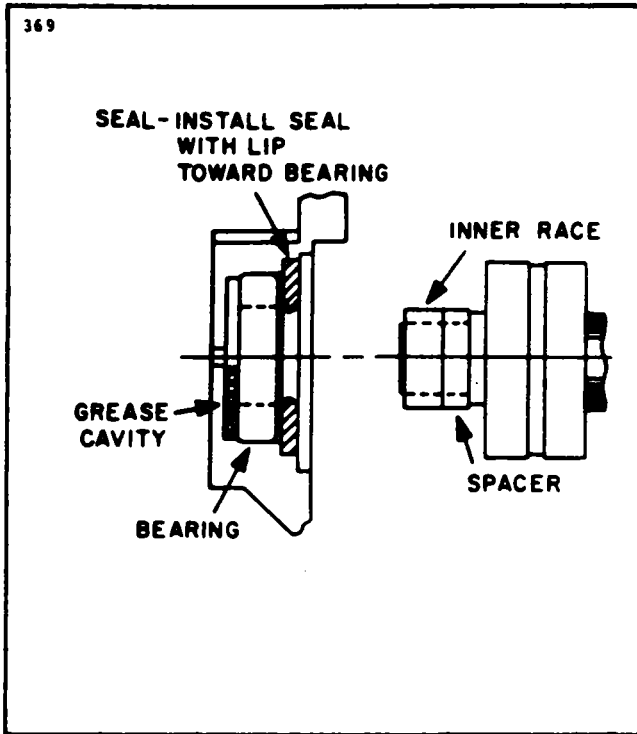

Figure 24-12. Slip Ring End Bearing Assembly
5. Install the slip ring end bearing and oil seal. Make sure the lip of the oil seal is toward the bearing. Correct assembly of bearing, seal, inner race and spacer is shown in Figure 24-12. Stake the seal in place.